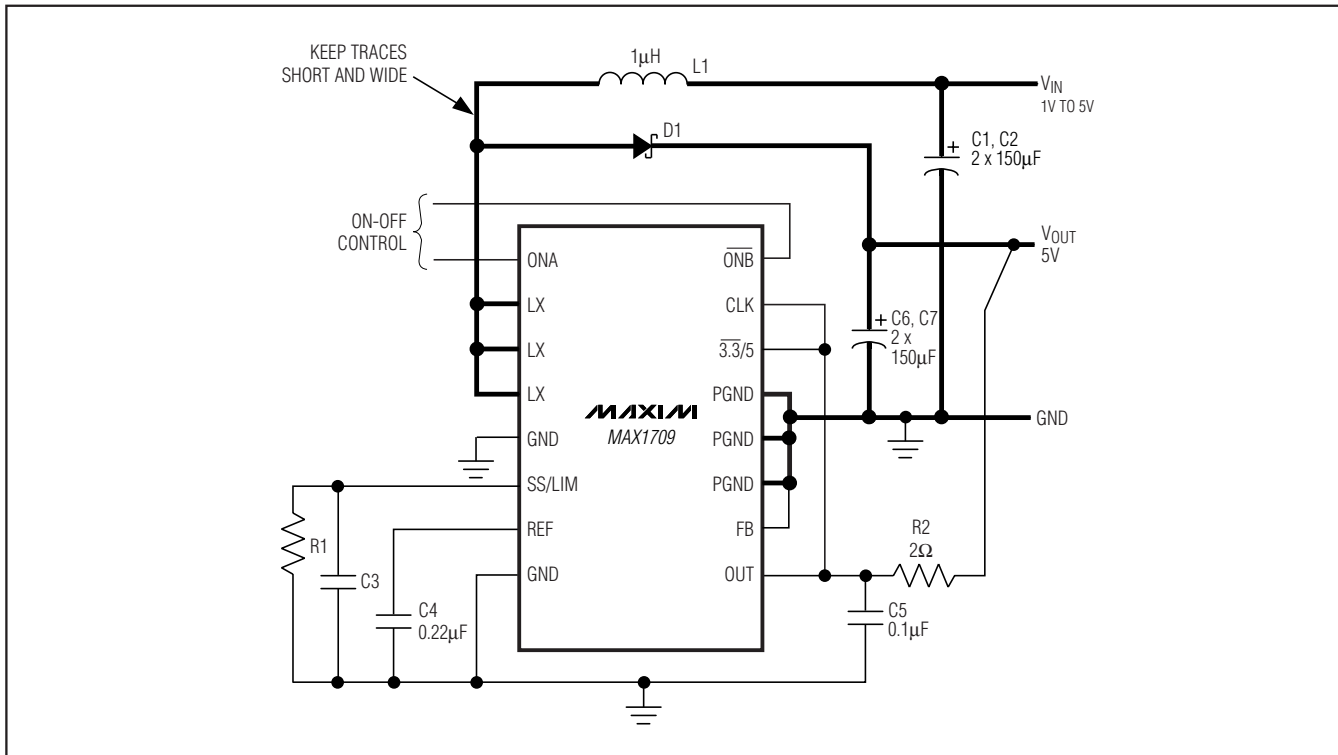
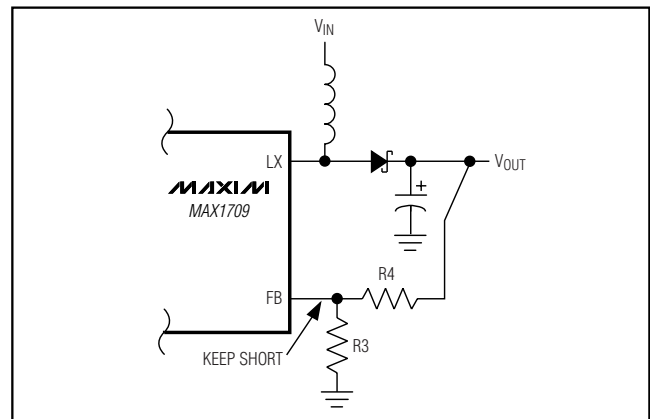

Figure 1. Standard Operating Circuit
Figure 4. Adjustable Output Voltage
**Note 4:** Startup is tested with Figure 1's circuit. Output current is measured when both the input and output voltages are applied.
(Circuit of Figure 1,  $T_A = +25^\circ\text{C}$ , unless otherwise noted.)
on the logic applied to the 3.3/5 input (Figure 1). The output can be configured for other voltages, using two external resistors as shown in Figure 4. To set the output voltage externally, choose an R3 value that is large enough to minimize load at the output but small enough to minimize errors due to leakage and the time constant to FB. A value of  $R4 \leq 50\text{k}\Omega$  is required.
from its nominal value (see *Electrical Characteristics*). A resistor (R1 in Figure 1) between SS/LIM and ground reduces the current limit as follows:
The output filter capacitor ESR must be kept under 15mΩ for stable operation. Two parallel 150µF polymer capacitors (Panasonic EEFUE0J151R) typically exhibit 5mΩ of ESR. This translates to approximately 35mV of output ripple at 7A switch current. Bypass the MAX1709 IC supply input (OUT) with a 0.1µF ceramic capacitor to GND and a 2Ω series resistor (R2, as shown in Figure 1).
Due to high inductor current levels and fast switching waveforms, proper PC board layout is essential. Protect sensitive analog grounds by using a star ground configuration. Connect PGND, the input bypass capacitor ground lead, and the output filter capacitor ground lead to a single point (star ground configuration). In addition, minimize trace lengths to reduce stray capacitance and trace resistance, especially from the LX pins to the catch diode (D1) and output capacitors (C6 and C7) to PGND pins. If an external resistor-divider is used to set the output voltage (Figure 4), the trace from FB to the resistors must be extremely short and must be shielded from switching signals, such as CLK or LX. Refer to a layout example in the MAX1709EVKIT data sheet.